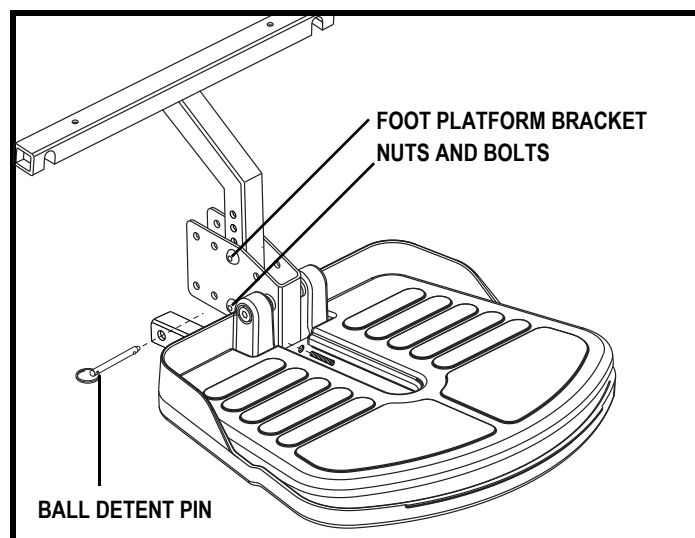

Figure 25. Foot Platform Adjustment
1. Remove the nuts and bolts from the foot platform bracket. **See figure 25.**